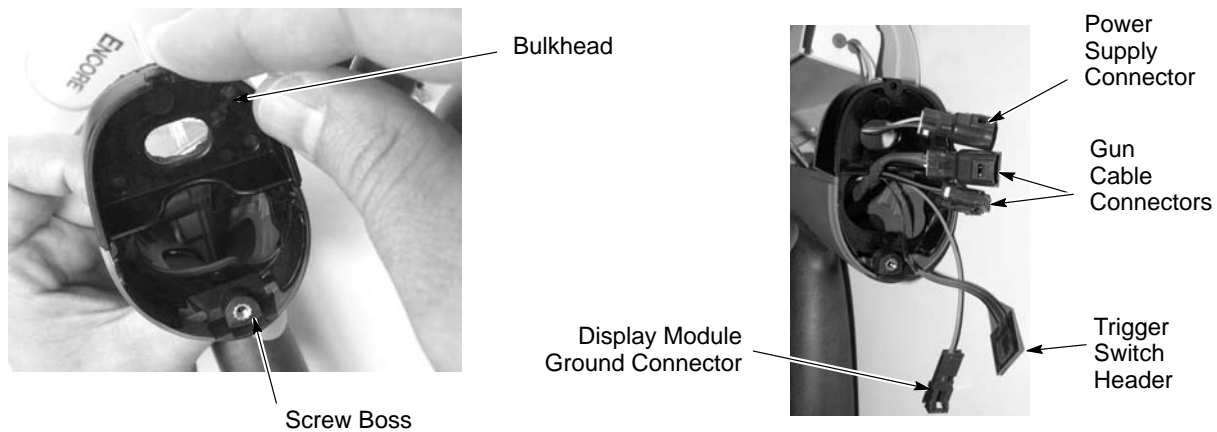

Figure 12 Assembling Bulkhead and Routing Cables
8. See Figure 12. Position the lower edge of the bulkhead behind the screw boss in the rear of the handle assembly and rotate the top of the bulkhead forward until it snaps into place on the handle and gun body.